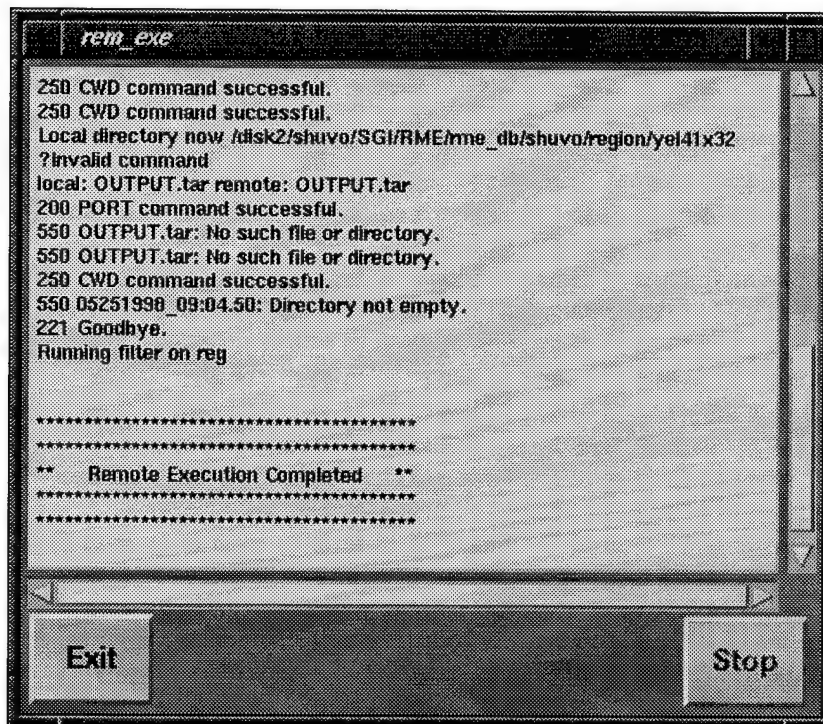

Figure 27 – The Model execution status window in Remote/Local Execution
9. Click on the 'Exit' button. This will exit the window and set the values, include them in the appropriate header file of the model, and add it to the model package. This also initiates the rest of the remote-execution procedures which does not require input and pops up the model execution status window (Figure 27).
4. Click on the 'exit' button. This brings up the 'status' window (Figure 27) which prints the model standard outputs and keeps the user informed on model progress.